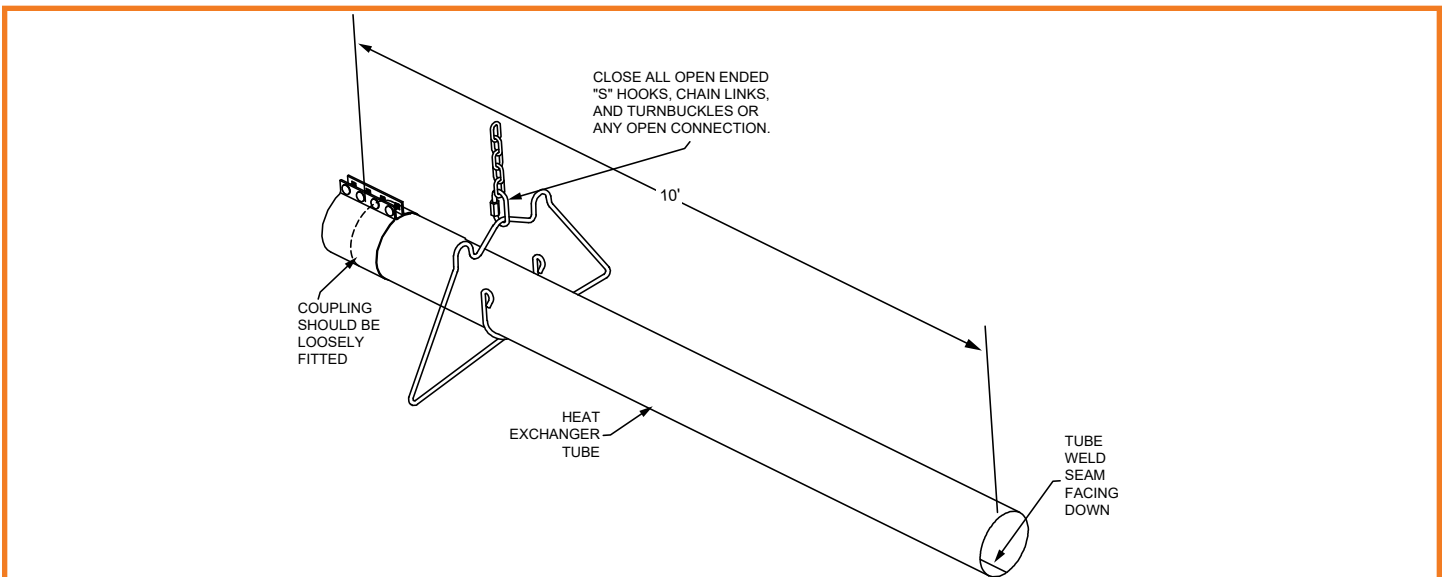

Figure 10: Installation of Heat Exchanger Tube and Coupling
- For all remaining tubes, fit the end of the tube with a coupling. The coupling should be loose (Figure 10).